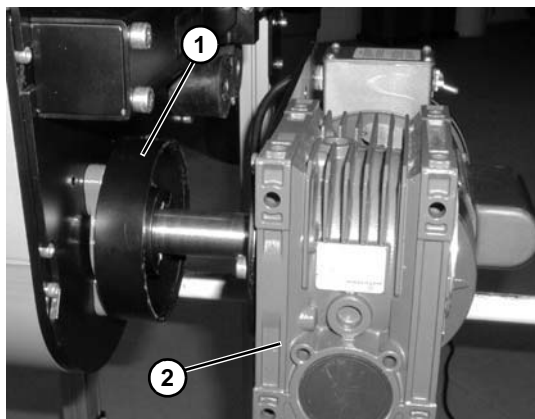

Figure 129
9. Reinstall spacer ring (**Figure 129, item 1**) and gearmotor (**Figure 129, item 2**). Tighten screws (**Figure 129, item 1**) to 150 in-lbs (17 N-m).